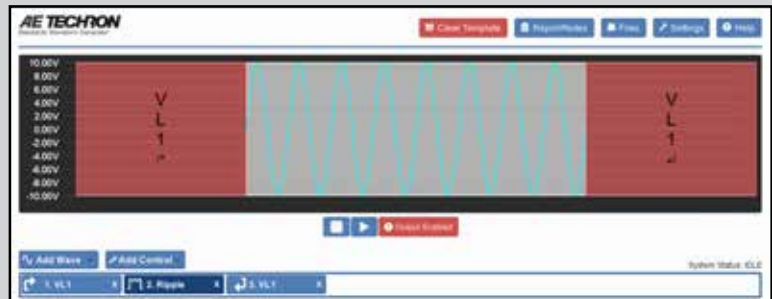

Figure 6.12 – Script VL Creation - Add Waveforms
2. Add the waveform or waveform sequence to be controlled by the script and position it between the Variable Loop Start and Variable Loop End segments. See **Figure 6.12**.